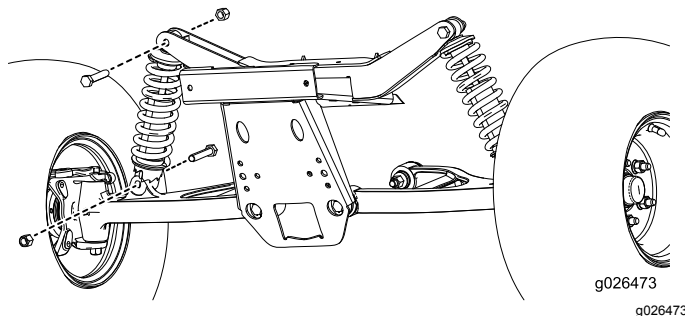

Figure 2
2. Remove the current shock assemblies as shown in Figure 2.